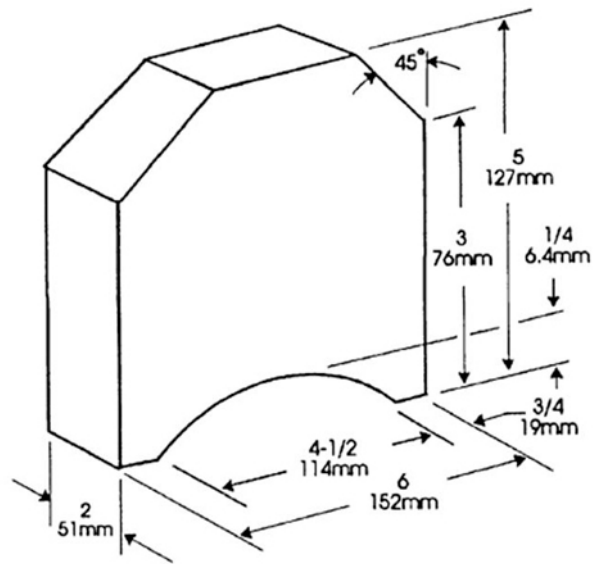

Fig. 16
- Gauge block of hard wood, made with the dimensions as shown in Fig. 16.